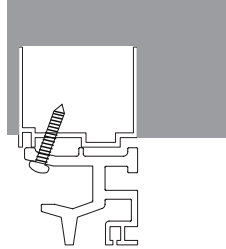

Figure 4
•Now, you can go along and attach the tracks one at a time. These can be toe nailed into the sill & filler (Fig. 4), through the lip on the face of the tracks every 18-24 inches. These will be with the 1 ½" #6 screws, evenly spaced (Fig. 5).